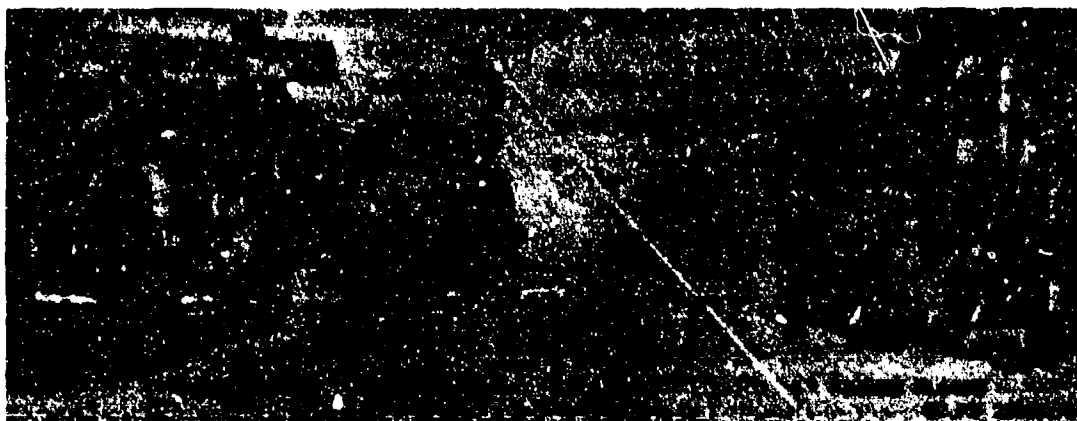

Figure 2-25. Stepped-thread, interrupted-screw breechblock.
(2) *Interrupted-screw breechblock.* The interrupted-screw breechblock (fig 2-25) is used on the weapons that fire separate-loading ammunition; that is, ammunition without a cartridge case. There are two variations in use—the interrupted-screw breechblock without steps in the threads, which is semiautomatic, and the stepped-thread, interrupted-screw breechblock, which holds it in the completely opened position to facilitate loading and which also helps to swing it to the closed position as the cannoneer operates the breechblock operating handle. The semiautomatic interrupted-screw breechblock is held in the open position by an operating cam lever, and when the cannoneer raises the lever, the breechblock closing springs cause the breechblock to close automatically.